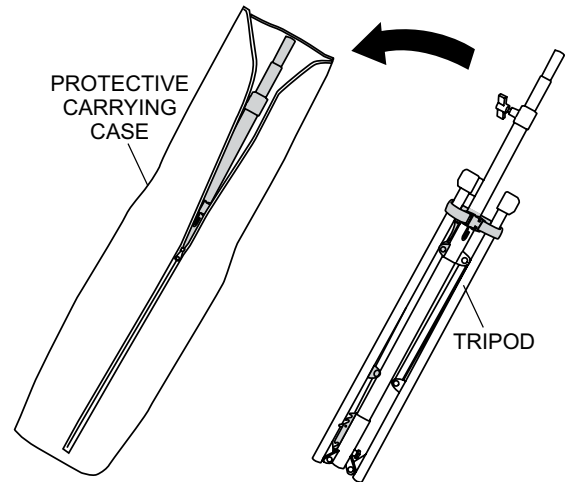

Figure 22. Carrying Case
9. Place tripod (Figure 22) inside protective carrying case.